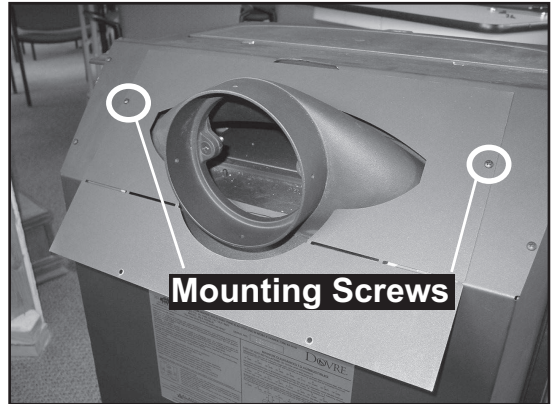

Figure 12.2
1. After the flue collar has been reversed for a rear vent installation, install the cover plate on the stove with the two screws provided. **Figure 12.2.**